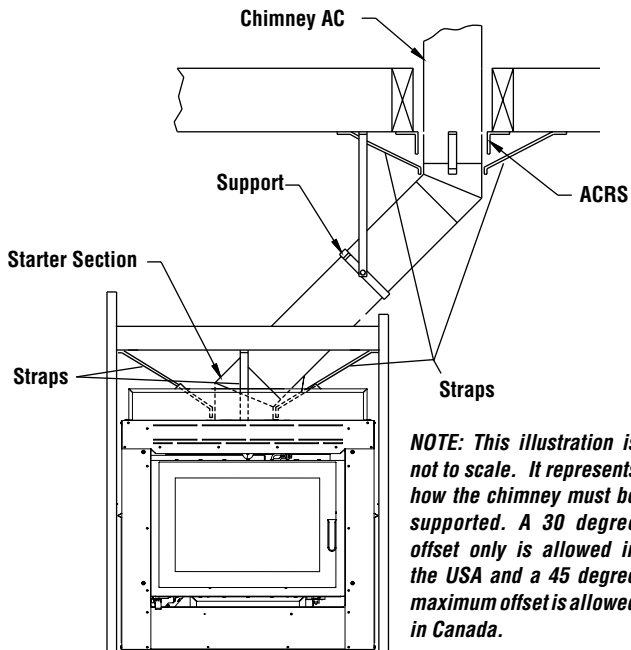

Figure 37
1. Install the first elbow. Turn it in the required direction. To lock it in place, turn 1/8 of a turn. Fasten the straps attached to the elbow to the surrounding frame, using nails or drywall screws (see **Figure 37**).